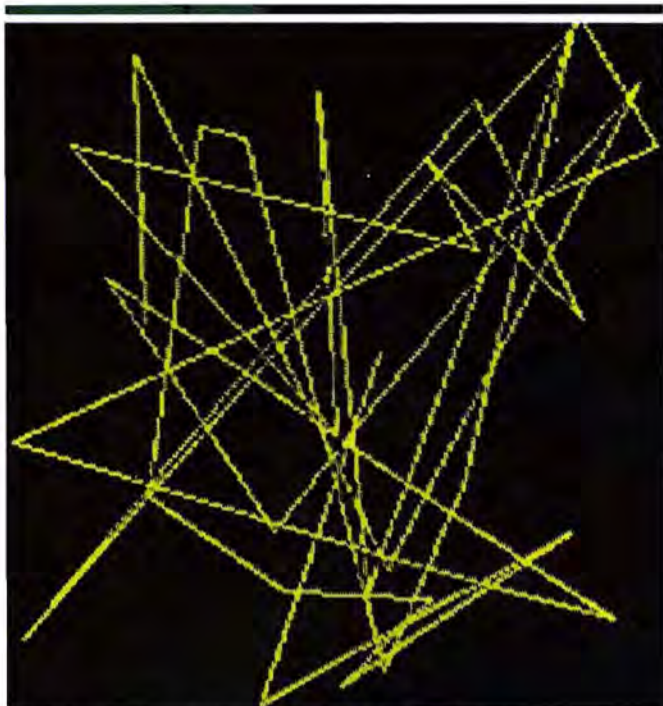

Fig. 3. Screen Shot Of Randomly Generated Lines
After the program is loaded into protected memory, you must define the execution address, set up the graphics screen with PMODE and SCREEN commands, draw your design, and execute a USR0(Q) command, where Q is four or six depending on which type of symmetry you use. I have included a short sample program, Listing 3, to illustrate the process. When loaded, this listing calls Symmetry and generates random graphics in quadrant 1 (see Fig. 3). Press the four key to get four-way symmetry; press the six key to get six-way graphics. (See Figs. 4 and 5.) To create another design, press any key.